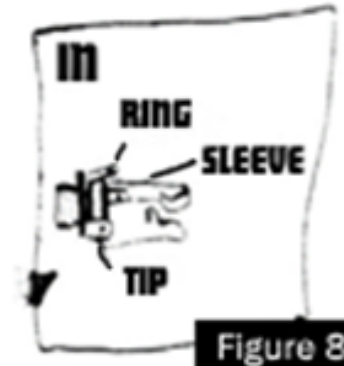

Figure 8
10. Solder a wire onto the Ring, Sleeve, and Tip of the Input jack as shown in figure 8.